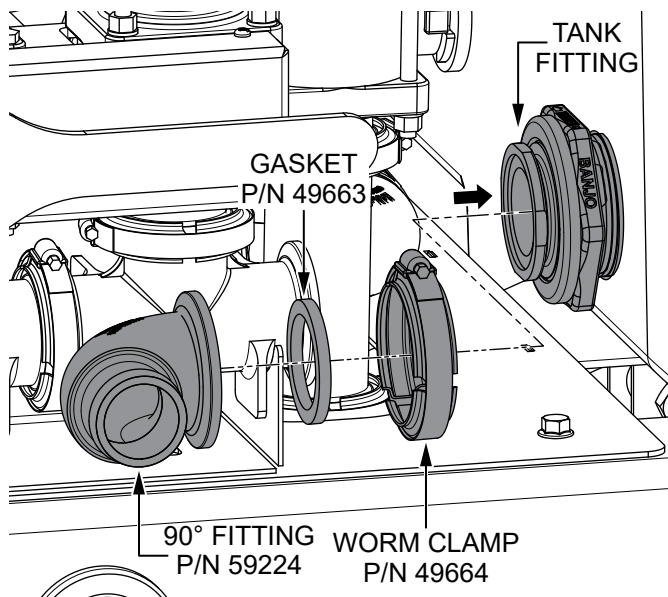

Figure 13. Install 90-Degree Fitting
- Use a **gasket (P/N 49663)** and **worm clamp (P/N 49664)** to install a **90-degree fitting (P/N 59224)** onto the **tank fitting**. The 90-degree fitting should be parallel to the ground with the barbed end pointing toward the left side of the trailer as shown in Figure 13. Tighten the worm clamp securely.